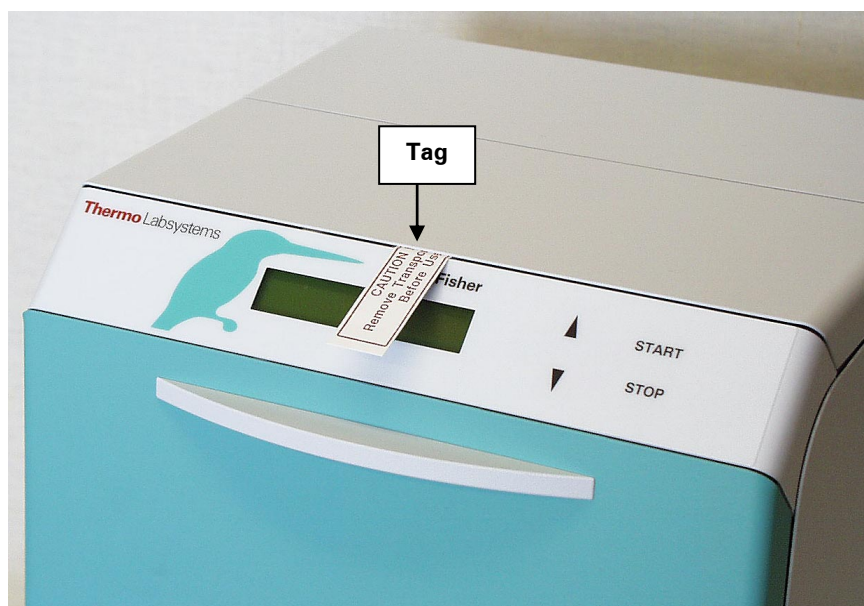
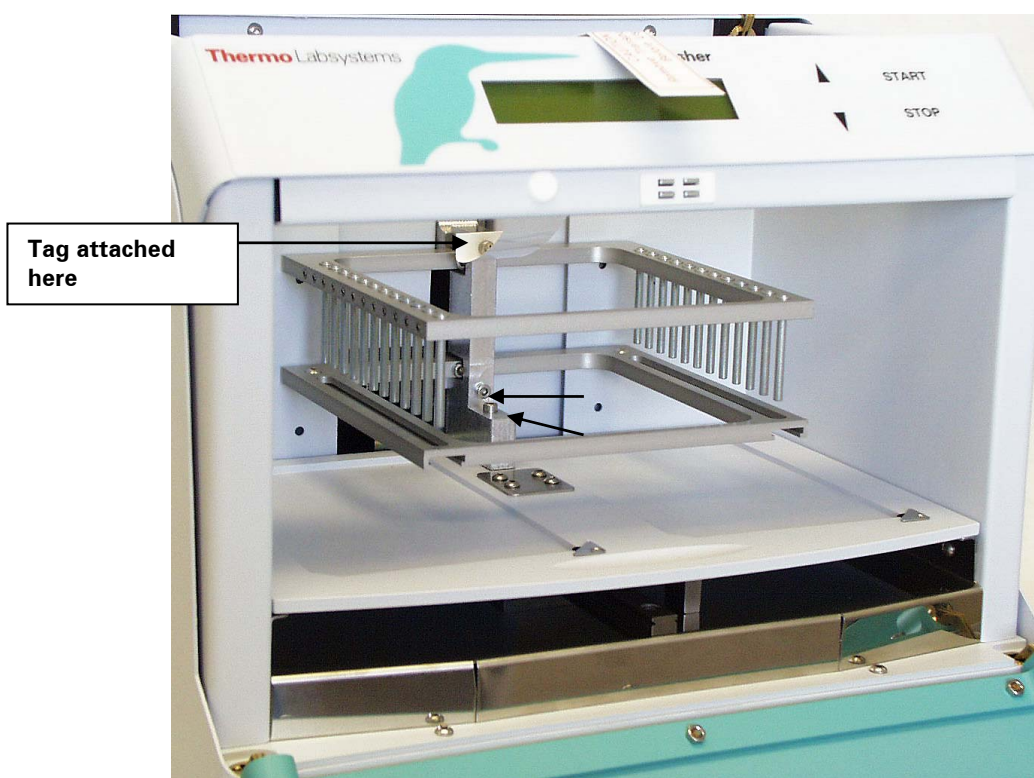

Fig. 5.1 KingFisher transport lock tag present before release of the lock piece
Fig. 5.2 Location of the transport lock screws
Note: THERE IS ONE TRANSPORT LOCK PRESENT (*Fig. 5.2*). A white tag with the red text 'CAUTION! Remove Transport Lock Before Use' is fastened to the instrument to attract the user's attention (*Fig. 5.1*). The tag in *Fig. 5.1* and the black arrows in *Fig. 5.2* indicate where the transport lock piece is situated. Remove the tag and release the transport lock. Ensure that the transport lock has been released before you put the instrument into operation.
1. To remove the transport lock, unscrew the three screws (Fig. 5.2) with the 2.5 mm hexagonal screwdriver supplied.